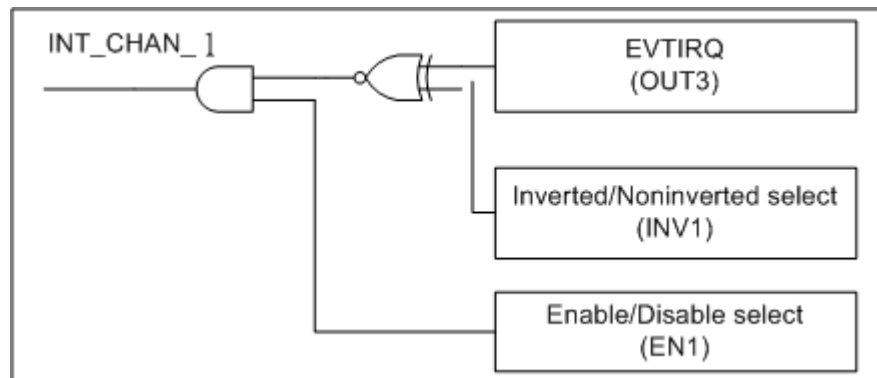

Figure 2.8
Figure 2.8 illustrates the control method of event interrupt. Note that the signal source come from OUT3. The INV1 is used to invert/non-invert the trigger signal source and EN1 is used to disable/enable the timer interrupt (Refer to Sec. 2.5 for the source of interrupt signal). User can use Counter3 as event counter to count the event signal that comes from Pin7 of CN5. When the amount of event is the same as counter3 setting, the interrupt of INT_CHAN_1 will be trigger. **The INT_CHAN_1 must be fixed in low level state normally and generated a high_pulse to interrupt the PC.**
1. The EN1 can be used to enable/disable the INT_CHAN_1 as follows: (refer to Figure 2.8 and Sec. 3.1.4)
2. The INV1 can be used to invert/non-invert the EVTIRQ as follows: (Refer to Figure 2.8 and Sec. 3.1.6)